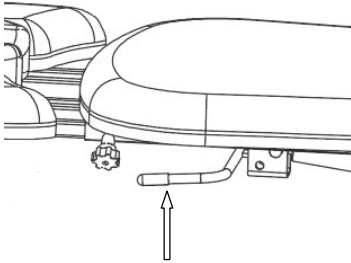

Figure 6
- As shown in Figure 6, pull the control lever backward (in the direction shown by the arrow) to adjust the angle of the chest section.